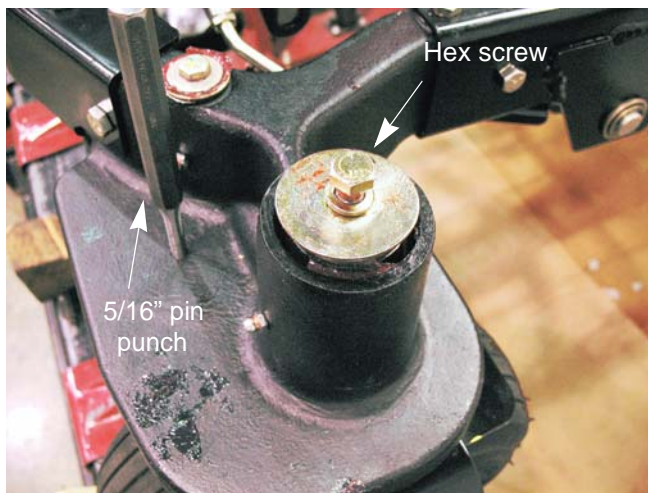

Figure 6.73
6. Remove the hex screw using a 9/16" wrench. See Figure 6.73.